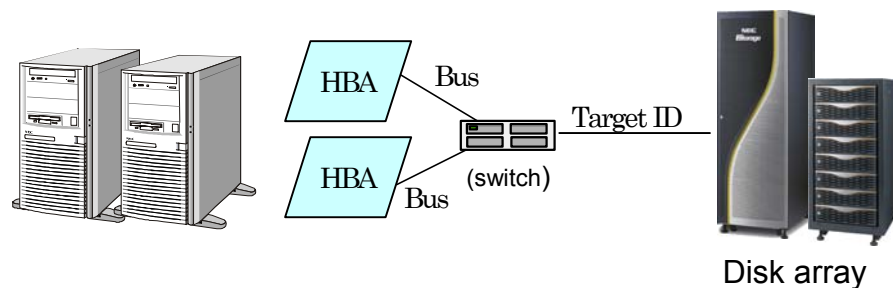

Figure 5-7 Relationship Between System Configuration and HBT
- HBT:** Abbreviation of a host adapter number, bus number and target ID. This can be specified in the format of `hxxbxtxx` and a decimal number from 0 to 255 can be specified for `xx`. (Figure 5-7 Relationship Between System Configuration and HBT) You can identify a disk array by HBT.